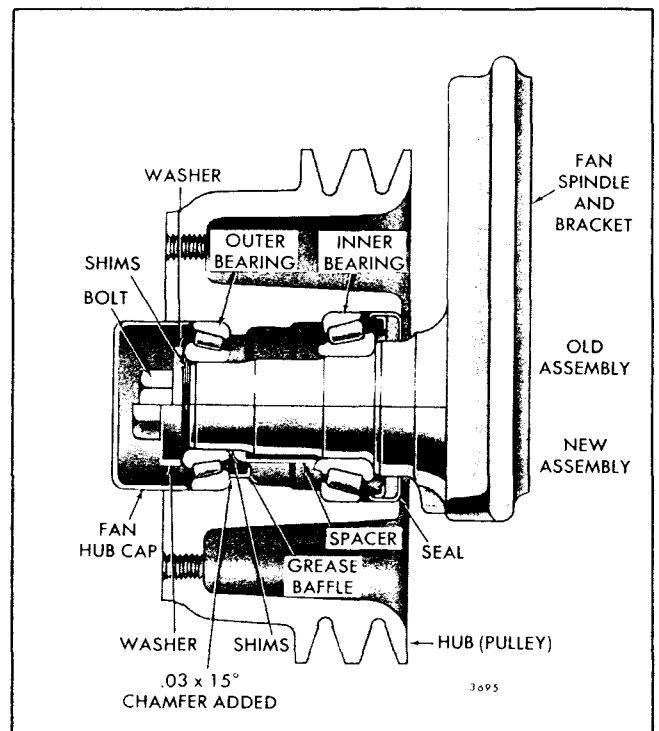

Fig. 7 - Spindle Type Fan Hub Assembly (6V and 8V Engine)
(Fig. 7). Also remove the shims if the former type fan hub assembly illustrated in Fig. 7 is used.
5. Remove the bearing spacer (Fig. 7) and shims (if the current type hub assembly is used).
The spindle-type fan hub assembly illustrated in Fig. 7 has also been revised. A bearing spacer has been added and a new outer bearing, which provides a closer fit on the shaft, replaces the old. A baffle has also been added to retain the grease and assure lubrication at the outer bearing. To facilitate installation of the grease baffle, a .030" by 15° chamfer has been added to the bore in the pulley.
Assemble the fan hub and spindle shown in Figs. 7 and 10 as follows: